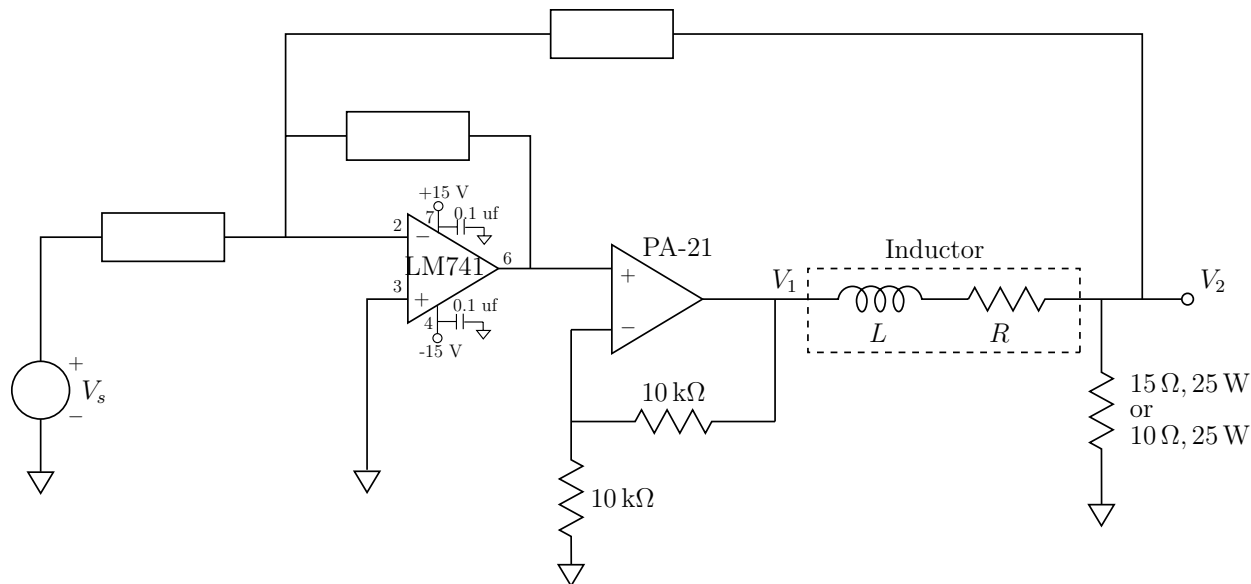

Figure 4: Closed-loop current controlled amplifier.
- Current controlled amplifier:** In this section, we combine the power op amp with a 741 amplifier to yield a closed-loop control system which controls the voltage on the 25 W power resistor, and thus controls the current through the load inductance (to the extent that the resistor is ideal). The topology of the circuit is shown in Fig. 4. Here the 741 is to be built on the protoboard and powered from the ± 15 V protoboard supplies. The supply connections are shown on the circuit diagram. Be sure to include bypass capacitors on each supply pin in close proximity to the op amp chip.
Use the model of the inductor that you developed in the previous section at 0 A bias to choose components of the control amplifier to fill in the boxes in Fig. 4. Specifically for your measured inductance, design the control amplifier to stabilize the loop with a 1000 rad/sec crossover frequency and at least 60 degrees of phase margin. Design your amplifier so that 10 volts input yields 0.7 amps coil current at low frequencies. The controller must also include an integral term so as to have high accuracy at low frequencies. Include in your report a block diagram showing the transfer functions of the key dynamic elements in the loop. For your design, sketch a root-locus plot showing how the closed-loop poles move as the control amplifier gain is varied. Also, sketch Bode plots of the negative of the loop transmission, and indicate on these the loop crossover frequency, phase margin, and gain margin. Although you are welcome to use **OCVNCD** for these calculations, please first sketch the plots by hand. (**Hint:** With respect to the practical world, in order to prevent high-frequency oscillations,
Extra Credit: *Absolutely not required*, but if you have the time, assume that the closed-loop current control system of Fig. 4 is driven with a 5V amplitude sine wave at 1000 rad/sec as $V_s = 5 \sin 1000t$. Further assume that the PA-10 is operating from ± 17 V supplies. In this case, calculate the voltages $V_1(t)$, $V_2(t)$, and the resulting current $I_s(t)$ through the 10Ω sense resistor R_s . Also calculate the average power dissipated in the PA-10 and in R_s . You should note that the inductive load causes more dissipation in the power amplifier than when driving a purely resistive load. This issue should be addressed as part of determining compliance with the safe operating area specifications of the power amplifier. See the data sheet for further discussion.